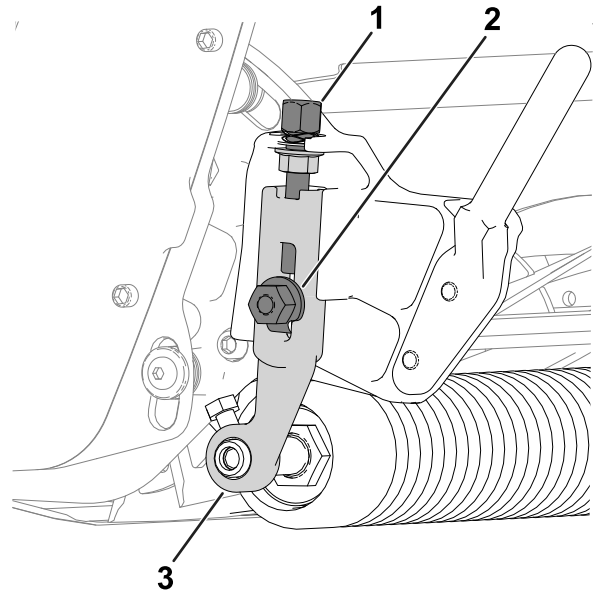

Figure 12
1. Loosen the locknuts that secure the height-of-cut arms to the cutting-unit side plates (Figure 12).